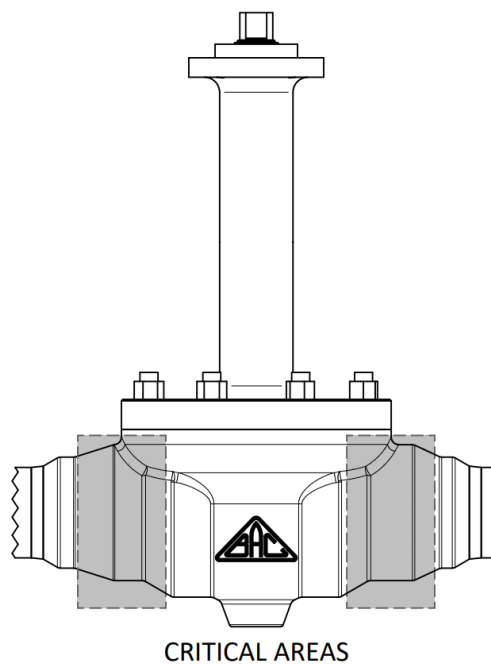

Figure 1. Critical weld areas
- 4.10 Valves can be welded in line without being taken apart, but special care must be taken. Ensure the valve it's in open position during welding and until it cools down to room temperature. Welding should only be done by qualified personnel following procedures outlined in ASME Boiler Pressure Vessel Code Section IX. To prevent damage, the temperature in critical areas (as depicted in Figure 1) must not exceed 80°C.